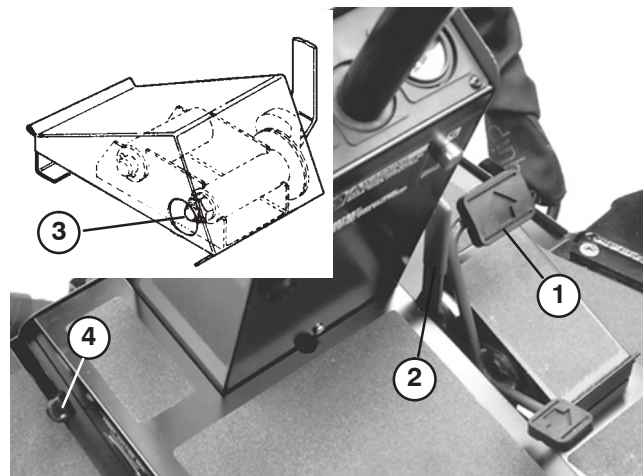

Figure 11
The traction pedal (Fig. 11) controls forward and reverse operation. Depress top of pedal to move forward and bottom to move backward. Ground speed depends on how far pedal is depressed. For maximum ground speed, fully depress pedal while throttle is in FAST. For maximum power under load or when going uphill, keep engine rpm high by having throttle in FAST and traction pedal held stationary against ground speed limiter. If engine rpm begins to decrease due to load, gradually reduce traction pedal pressure until engine speed is increased.
The ground speed limiter (Fig. 11) controls traction pedal movement. Limiter lever helps control the rate of clip and eliminates sudden speed variations over rough terrain.
**Important** Cam lever nut (Fig. 11, Inset) can be tightened if limiter stop will not hold traction pedal in desired position.
Latches secure cutting units in upright position for transport operation. Latch for front cutting units is foot-operated (Fig. 11). Hand-operated latches control the center and outside cutting units (Fig. 12).